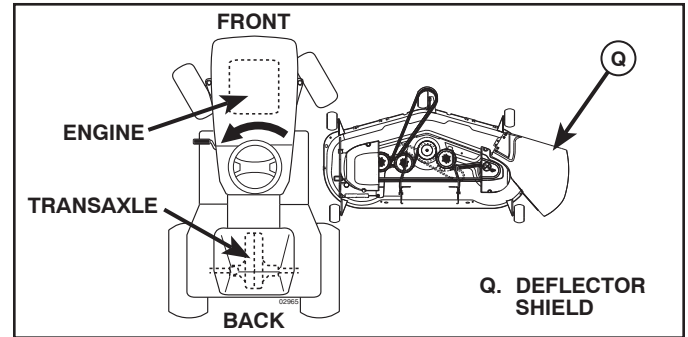

Fig. 7
3. TURN STEERING WHEEL LEFT AND POSITION MOWER (See Fig. 7)
- Turn steering wheel to the left as far as it will go and position mower on right side of tractor with deflector shield (Q) to the right.